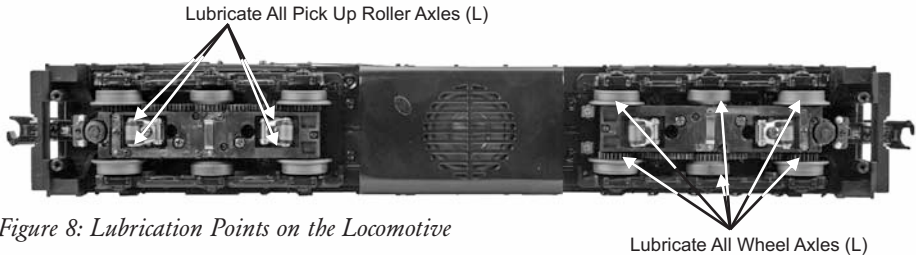

Figure 8: Lubrication Points on the Locomotive
1. To access the gear box, remove the cab from the chassis by unscrewing the body mount screws as seen in fig. 8 and lifting the cab from the chassis.
2. Once the cab is removed, remove the trucks by unscrewing the black Phillips motor mount screw located on the underside of the drive trucks (fig. 8).